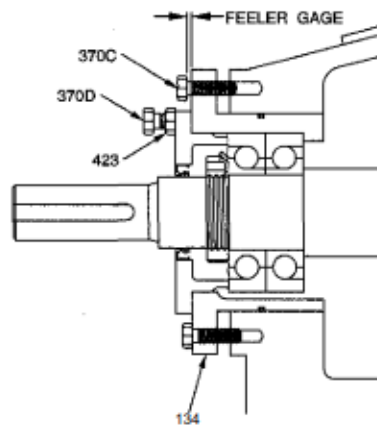

FIGURE 10
- (b) Remove coupling guard. Loosen jack bolts (370D) and jam nuts (423). Tighten bearing housing bolts (370C) evenly, while slowly rotating the shaft until the impeller just starts to rub on the casing side plate. Using a feeler gauge, set the gap between the four housing bolts (370C) and the bearing housing. SEE FIGURE 10. Set the gap according to the above table as required.